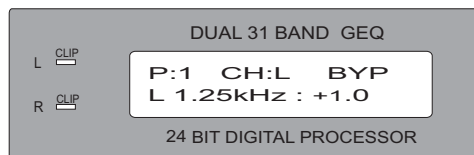

Fig.9 Bypass
9. Press button 8 in main menu to activate "BYPASS" mode for present channel (as Fig. 9). Press 8 again to resume to EQ mode. Display as main menu.